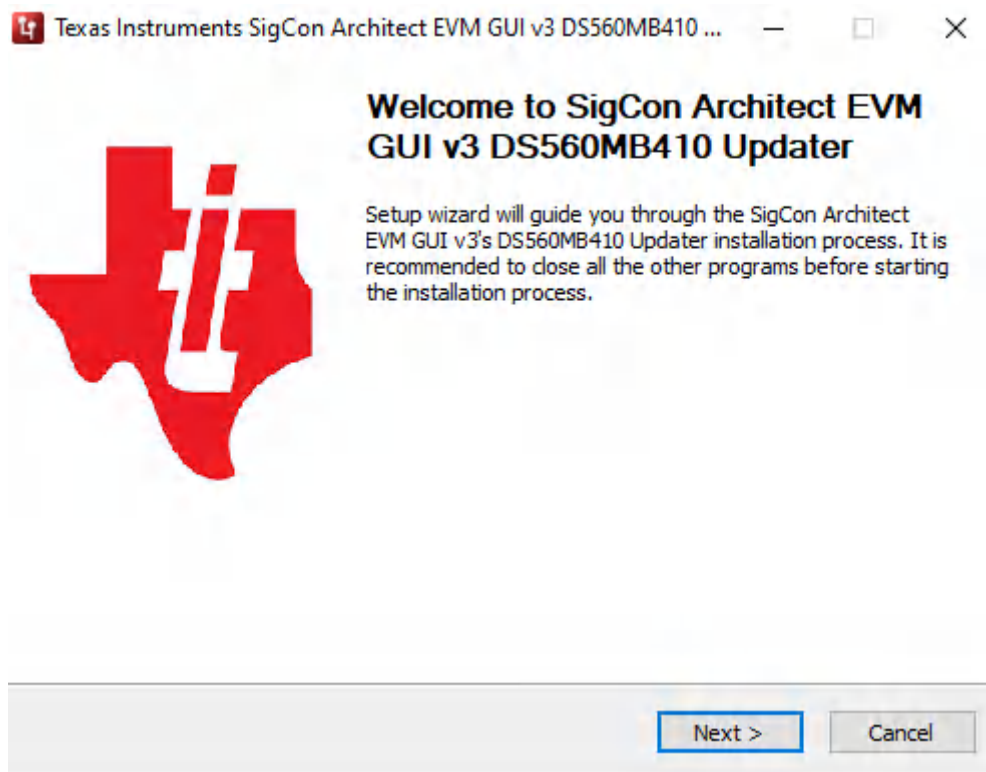

Figure 5-1. DS560MB410 Profile Installer
3. When the executable runs, a setup wizard will appear as shown in Figure 5-1. It is recommended to close any running programs prior to proceeding.